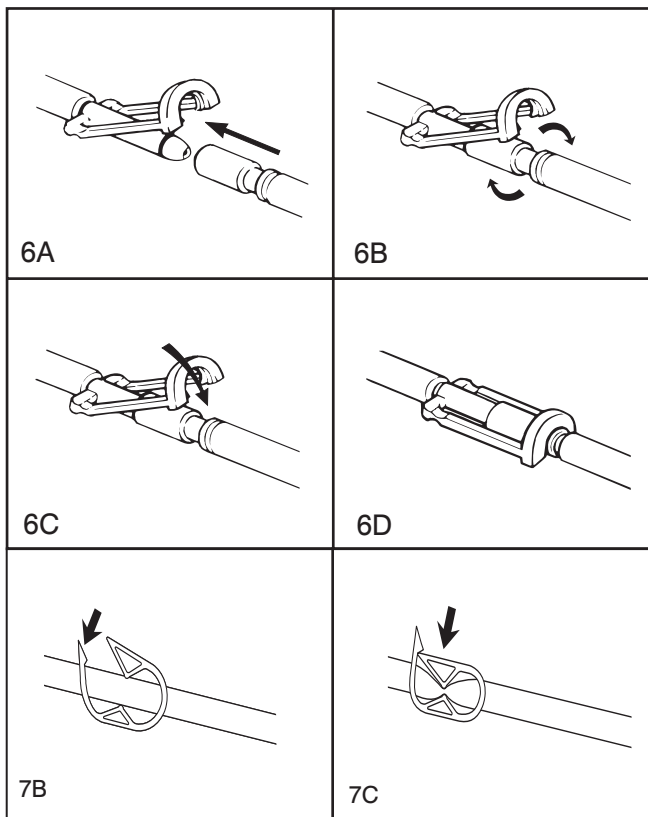

Figure 6: Clik-Tite® Connectors
5. Coil the hose, and attach the Clik-Tite® connectors together on the hose (See Figure 6, page 14), where applicable.